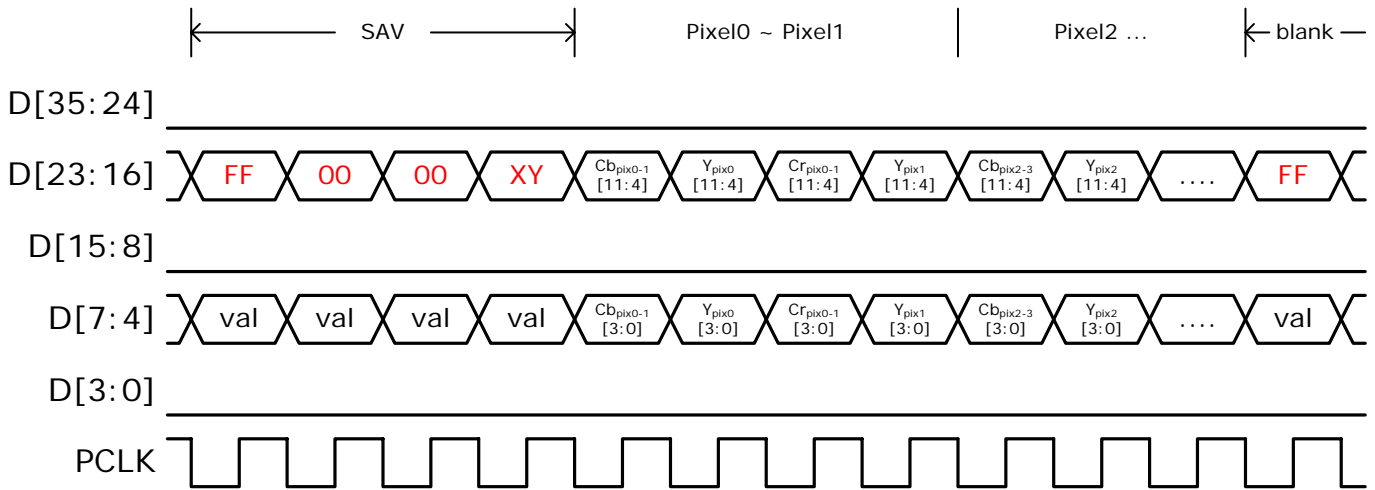
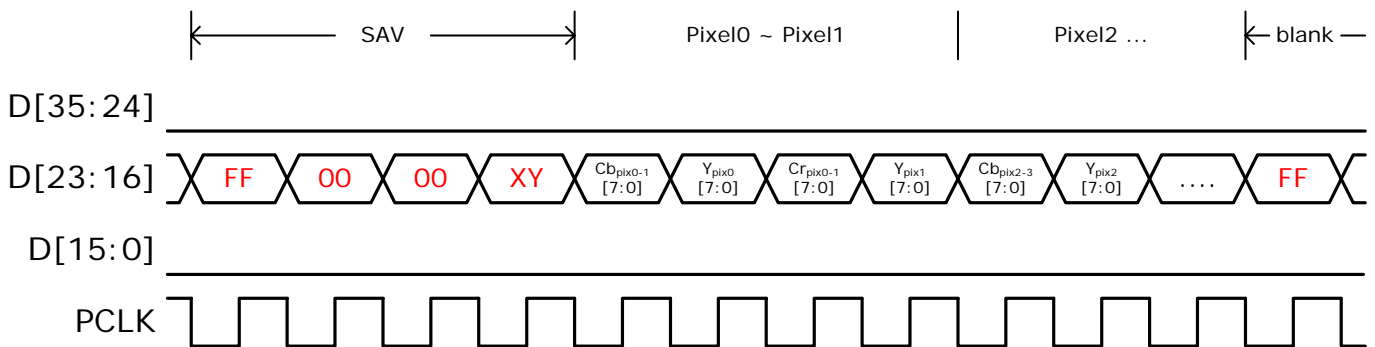

Figure 11. 12-bit CCIR-656
Figure 12. 8-bit CCIR-656
by half compared from the previous YCbCr 4:2:2 formats, to either 8-bit, 10-bit or 12-bit. To compensate for the halving of data bus, PCLK frequency is doubled. With the double-rate output clock, luminance channel (Y) and chroma channels (Cb or Cr) are alternated. Normally this mode is used only for 480i, 480p, 576i and 576p. The CAT6613 supports CCIR-656 format of up to 720p or 1080i, with the doubled-rate clock running at 148.5MHz. CCIR-656 format supports embedded syncs only. Figure 11 and Figure 12 give two examples.